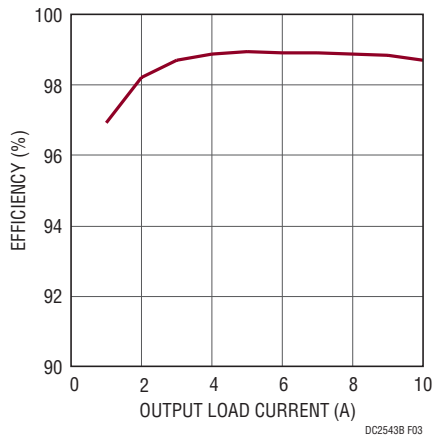
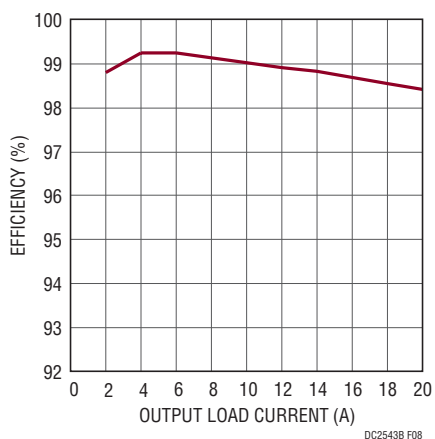
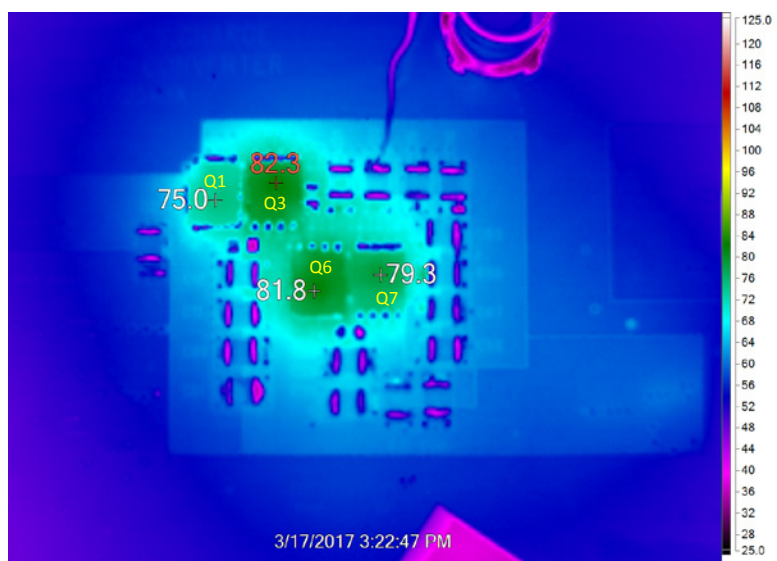

Figure 3. Efficiency vs Load Current at $V_{IN} = 48V$, $V_{OUT} = 24V$, $f_{SW} = 200kHz$
Figure 8. Efficiency vs Load Current at $V_{IN} = 48V$, $V_{OUT} = 24V$, $f_{SW} = 200kHz$ *
Figure 10. Thermal performance at $V_{IN} = 48V$, $V_{OUT} = 24V$, $I_{OUT} = 20A$, $T_A = 23^\circ C$, No Airflow *
Demonstration circuit 2543B is a high efficiency, high density, open loop charge pump (inductorless) DC/DC converter. This demo board is a voltage divider which achieves a 2:1 step-down ratio from an input voltage from 36V to 60V. The output voltage is a fixed ratio of half of the input voltage ($V_{IN}/2$) and can supply a 10A load current. This demo board has the option to deliver a 20A maximum load with the addition of 15 chip capacitors. See Figure 8 and Figure 10 for the details.
The DC2543B provides a very high efficiency solution of 98.7% when converting $48V_{IN}$ to $24V_{OUT}$ at 10A as shown in Figure 3. When configured for a 20A output, an efficiency of up to 98.4% is achievable for a $48V_{IN}$ to $24V_{OUT}$ at 20A as shown in Figure 8.
1. When measuring the output or input voltage ripple, do not use the long ground lead on the oscilloscope probe. See Figure 3 for the proper scope probe technique. Short, stiff leads need to be soldered to the (+) and (-) terminals of an output capacitor. The probe's ground ring needs to touch the (-) lead and the probe tip needs to touch the (+) lead.